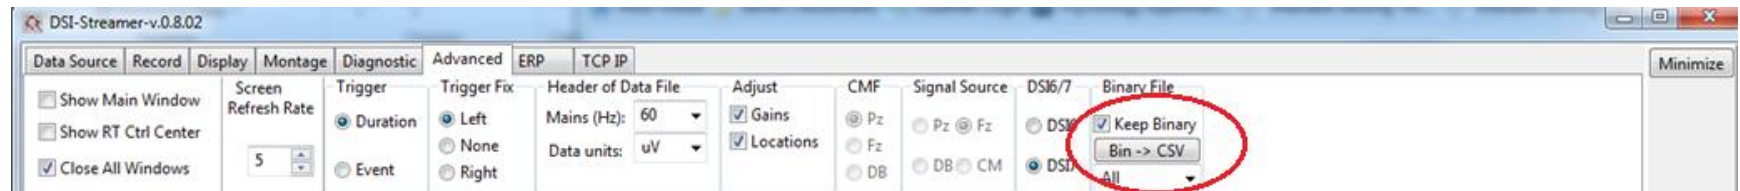

Figure 55 – “Binary File” Tools in the Advanced Tab
- Click on the “Bin -> CSV” button, circled in red in Figure 55.